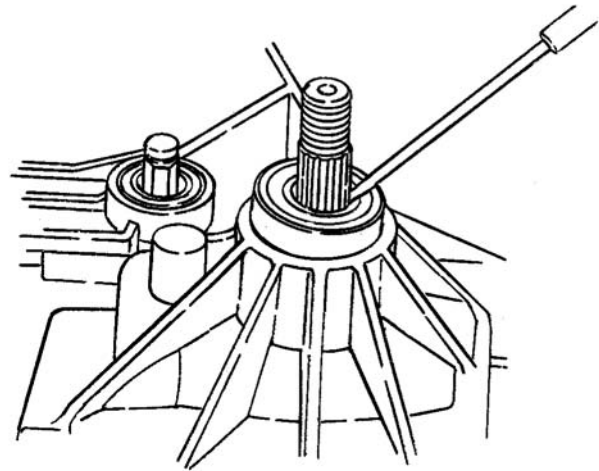

Figure 6-48. Input Shaft Seal Removal
- a. To remove input shaft seal carefully pull seal out of housing bore with a hook type tool or a slide hammer type puller. See Figure 6-48.